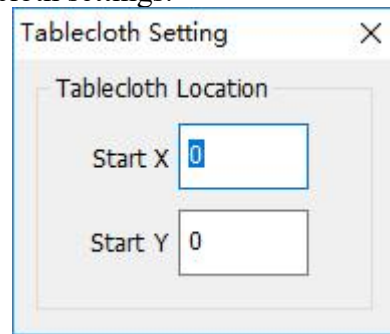

Fig. 3-19 Tablecloth Setting Window
- 3) Set the actual size of the screen, cabinet and module to the correspond editors. For more details on Margin Seam settings refer to Fig.3-19.